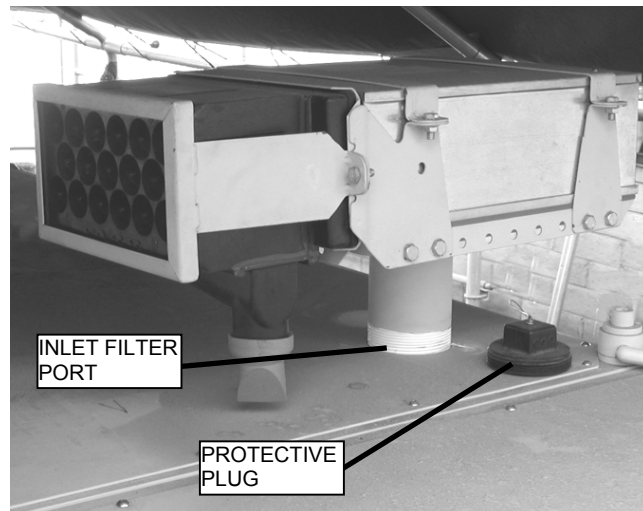

Figure 2. Filter Installed on Roof.
- c. Remove the protective plug from the inlet filter port on the roof of the EDOCS-120. Remove the wrap from the blower inlet filter and install it in the port on the roof. Refer to Figure 2.